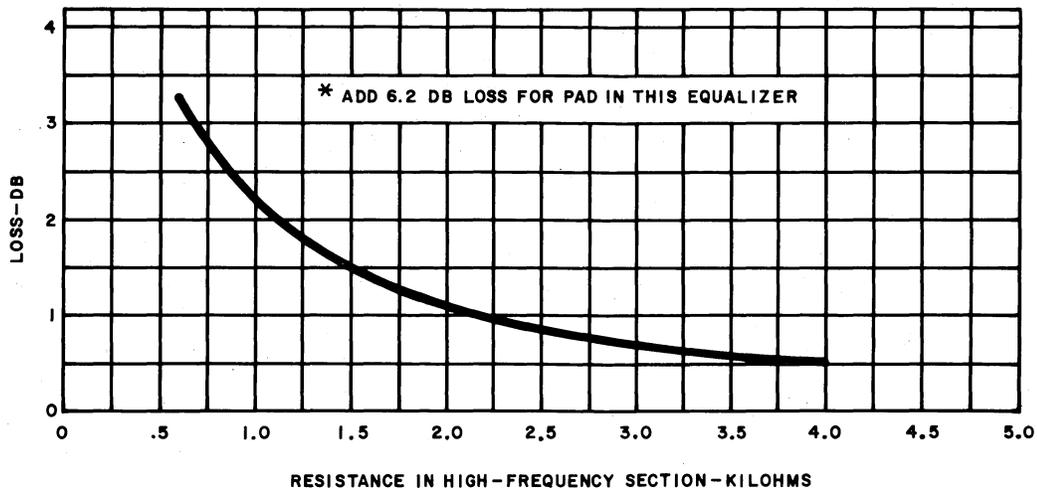

Fig. 10—1-kHz Loss vs High-Freq. Adjustment
**19.09** Adjustments of the LF part of the equalizer have practically no effect on either the transmission loss of the transmission-frequency characteristics from about 1 kHz up. Adjustments of the HF part of the equalizer affect the loss at 1 kHz as shown in Fig. 10.